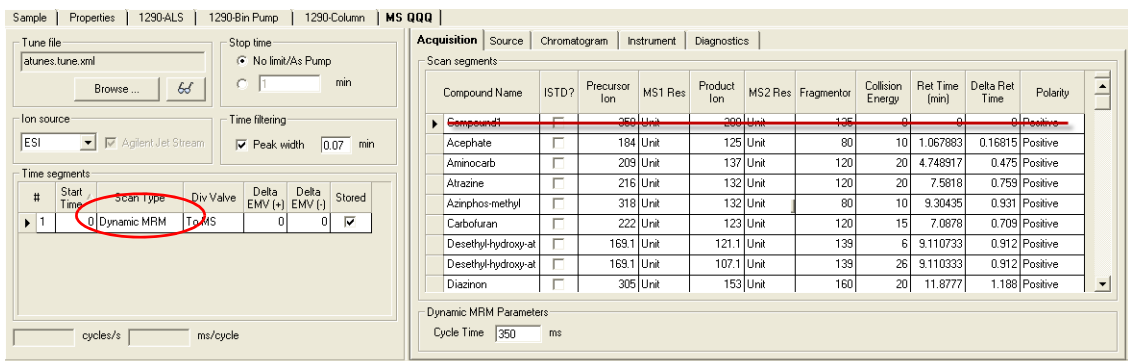

Figure 14
- The retention time window (Delta Ret Time) is scaled to the peak width found for that compound. A scale factor of 2 will create a retention time window that is 2 times the peak width (baseline to baseline). Choose a larger factor if you want to acquire more data points for the transition. The respective dwell times for MRM transitions will also decrease, depending on the number of overlapping peaks and their respective peak widths. See Figure 14.